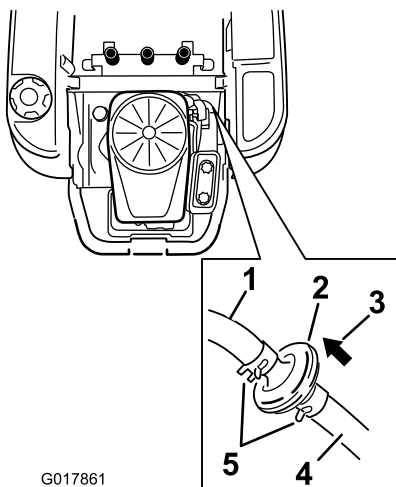

Figure 35
3. Raise the seat and locate the fuel filters as shown in Figure 35.
6. Install a new filter with the flow direction arrow coming from the fuel tank and pointing to the engine. Move the hose clamps close to the filter (Figure 35) to secure it in place.
4. Squeeze the ends of the hose clamps together and slide them away from the filter (Figure 35).